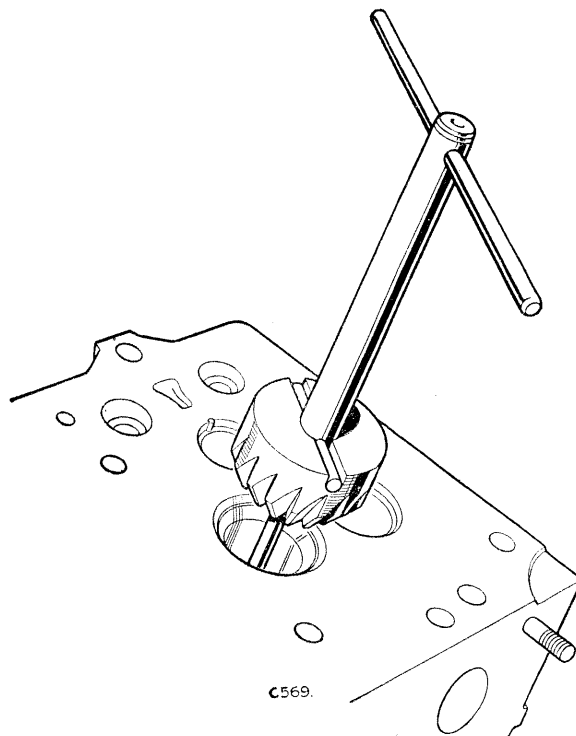

Fig. A-82—Valve seat cutting tool
5. Reface the inlet valve seats using special tool No. 274413 and special tool No. 274414 for the exhaust valve seats. See Fig. A-82.